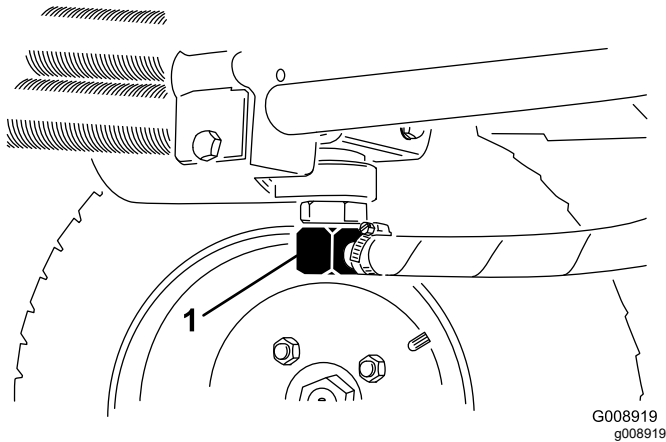
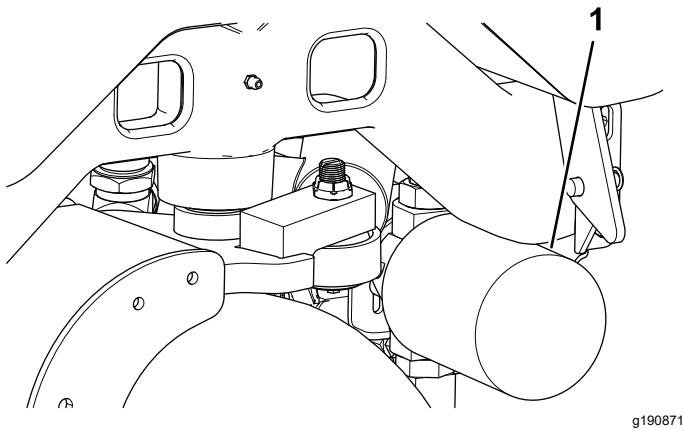

Figure 75
Figure 76
3. Disconnect the hydraulic line (Figure 75) or remove the hydraulic filter (Figure 76) and let the hydraulic fluid flow into a drain pan.
4. Place a drain pan under the filter (Figure 76) and remove the filter.